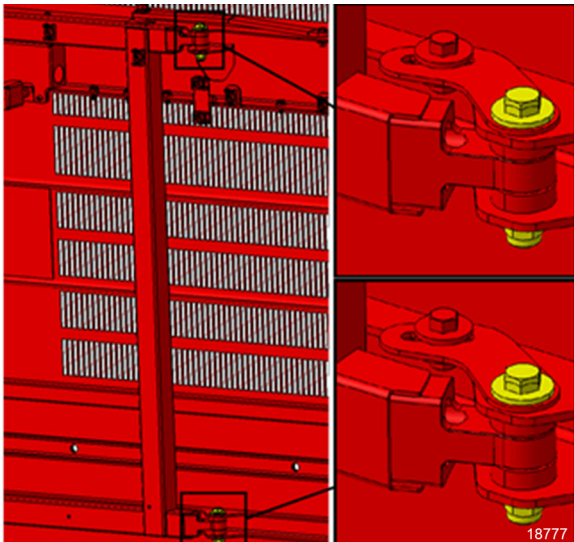
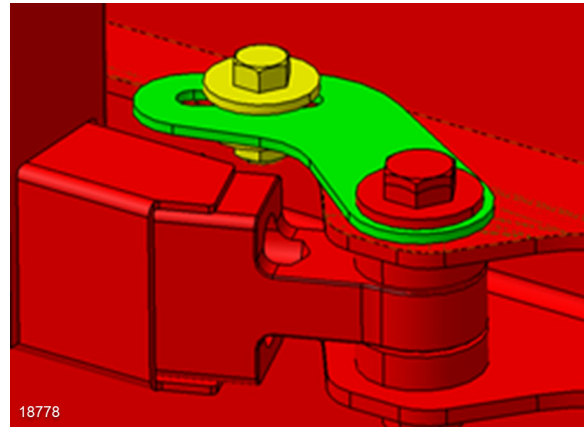

FIGURE 55
FIGURE 56: LOCKING PLATE
- If the vertical position is out of tolerance, release the locking plate (Figure 56) and rotate the door using the adjustment provided on the inner side of the door, at the attachment points between the arm and the door (FIGURE 55).